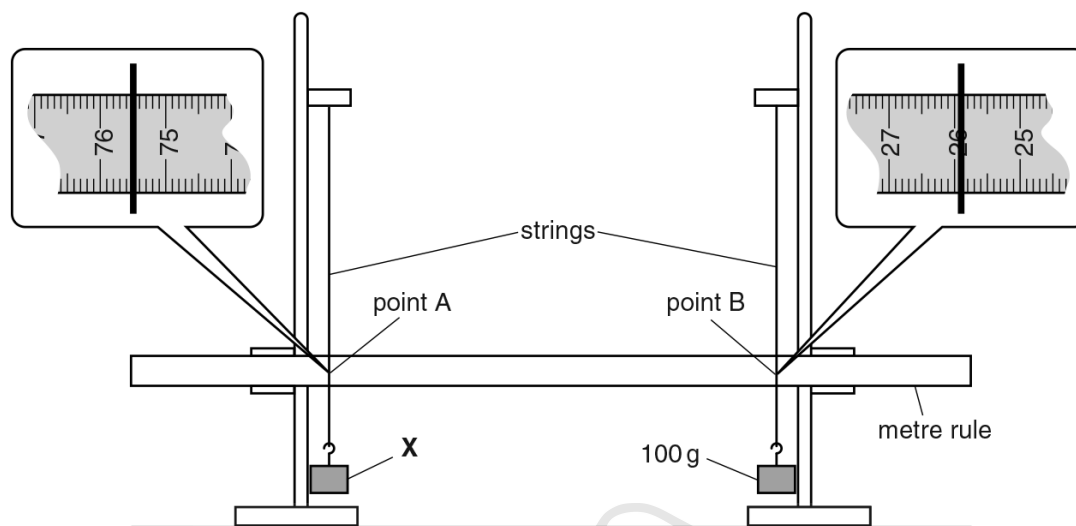

Fig. 1.1
The apparatus is set up as shown in Fig. 1.1.
- (a) (i) Record the scale reading a_0 at point A, where the string crosses the rule, as indicated in the enlarged section of Fig. 1.1.